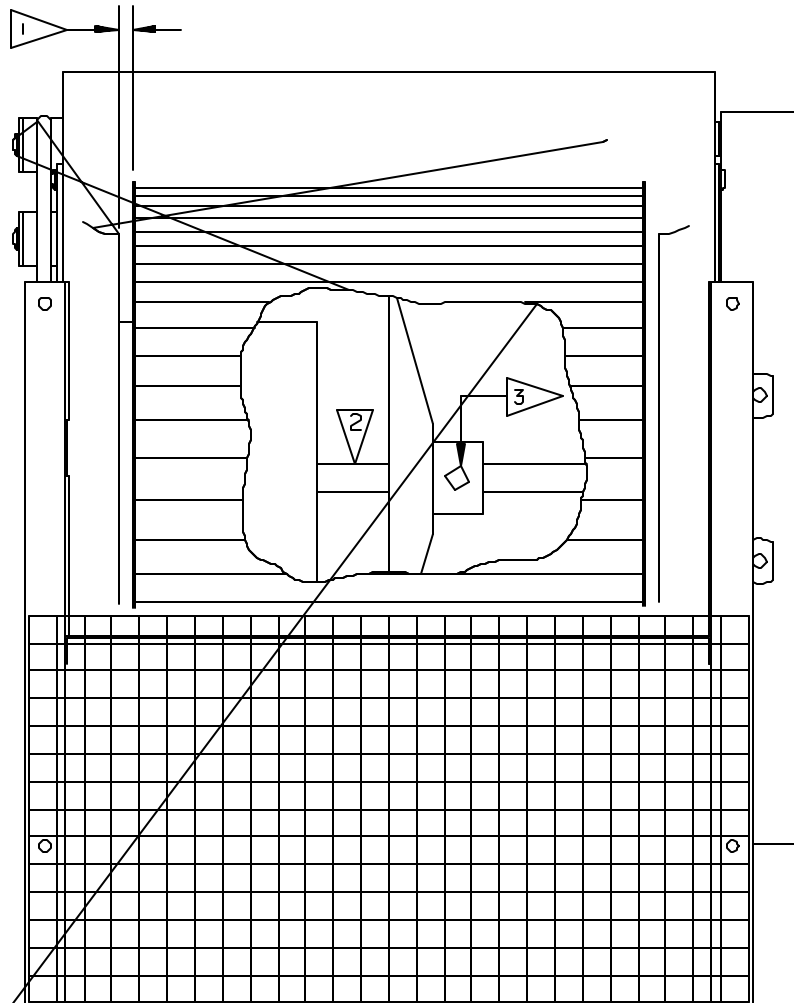

FIGURE 9
2. Remove 4 screws that attach scroll housing to side panel (See #1, Figure 9).
- Note: Upon reassembly, the references made on Figures 9 and 10 shall be used for proper reassembly.